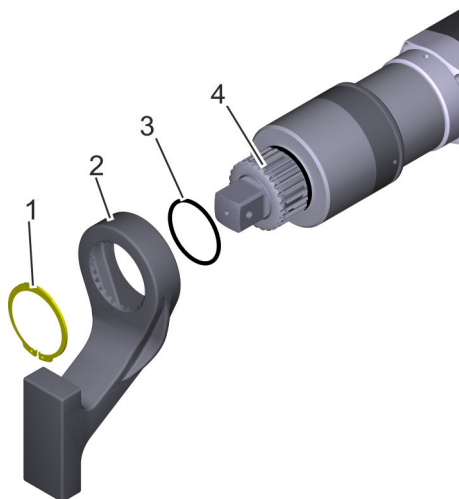

Fig. 20: Securing the reaction arm
Carefully slide the O-ring (Fig. 20/3) onto the serration (Fig. 20/4) on the nutrunner.
3. ➔ Push the reaction arm (Fig. 20/2) onto the serration.
- 4.** → Slide on the circlip (Fig. 20/1) with the aid of the circlip pliers (Fig. 21) and clamp it.